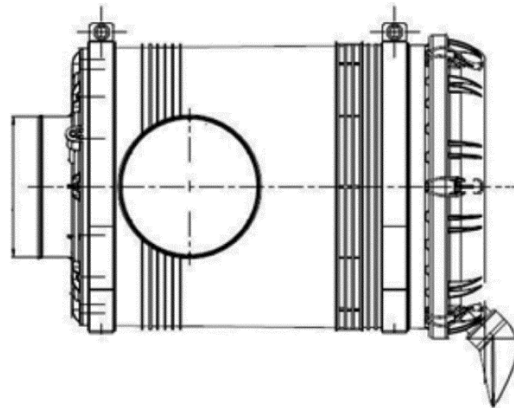

Figure 1-2 Air Filter
(3) Water Separator
(4) Air Filter
- (a) Examine the air filter and its connections for leaks, dents and damage (See Figure 1-2).